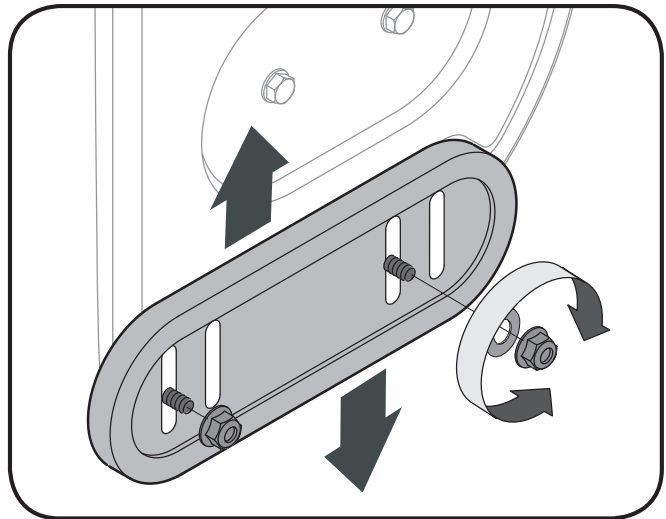
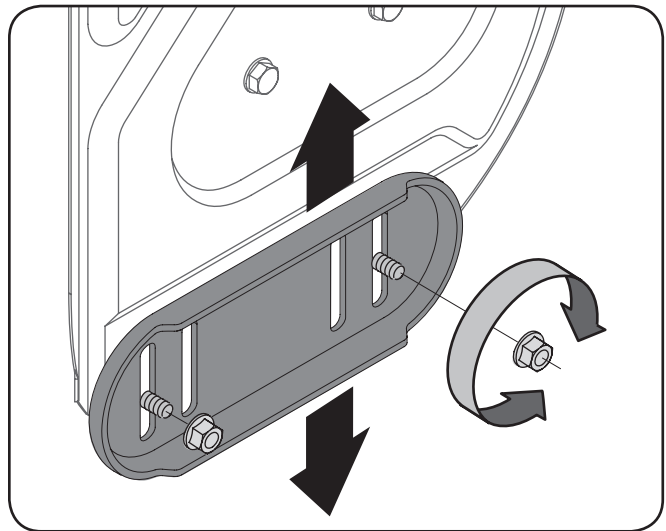
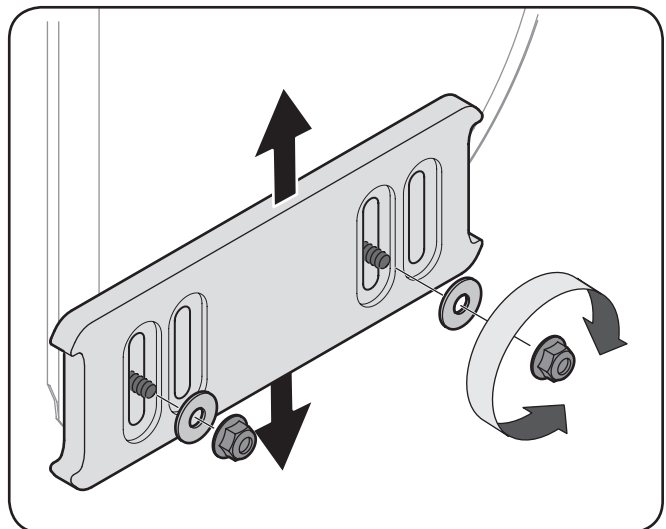

Fig. 3-12
Fig. 3-13
Fig. 3-14
1. Loosen the four hex nuts (two on each side) and carriage bolts. Move skid shoes to desired position. See Fig. 3-12, Fig. 3-13 or Fig. 3-14.